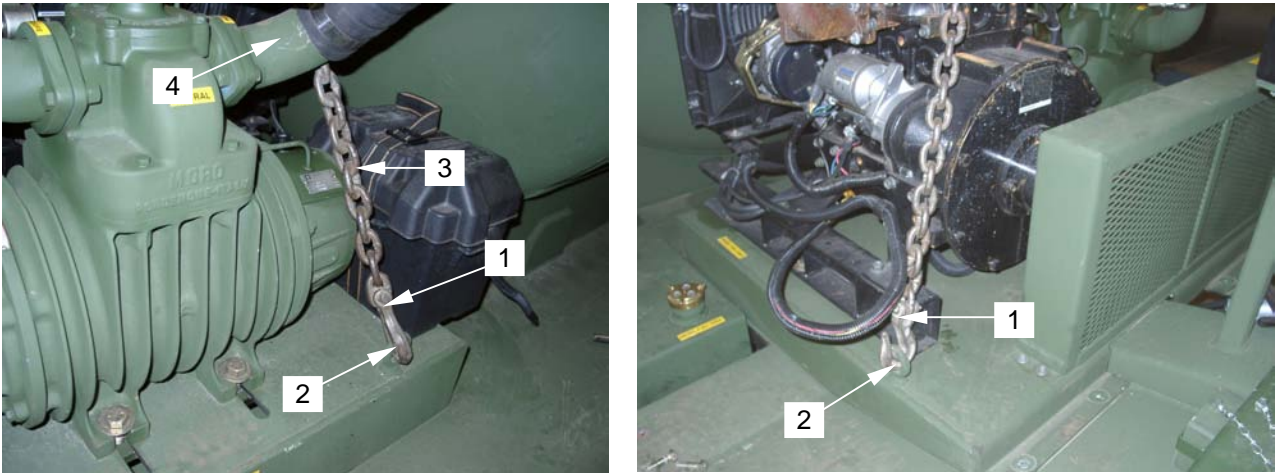

Figure 31. Attaching Lifting Hooks
25. Attach lift hooks (**figure 31, item 1**) to skid lifting eyes (**figure 31, item 2**) as shown. Ensure rear lifting chain (**figure 31, item 3**) is positioned behind vacuum pump port (**figure 31, item 4**).